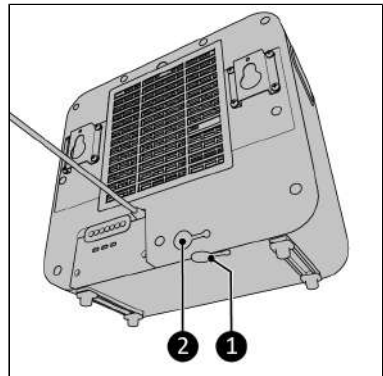

Figure 41.
1. Make sure both water stop plugs are in the indoor unit reservoir (Figure 41, pos. 1 and 2).
4. The water stop plug on the bottom of the indoor unit needs to be plugged in (Figure 41, pos. 1).